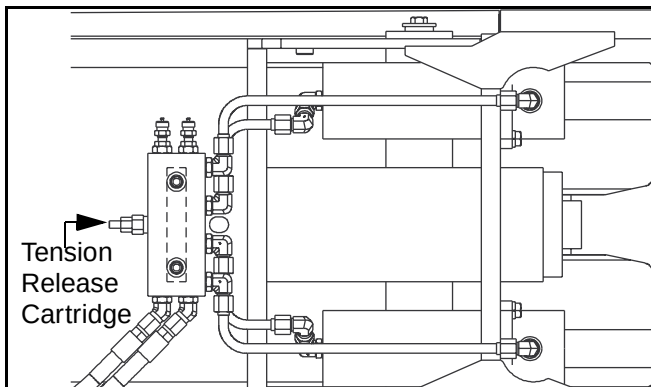

Figure 6 - 76 Release Rubber Track Tension
- 2) Loosen jam nut on tension release valve cartridge (Figure 6 - 76).